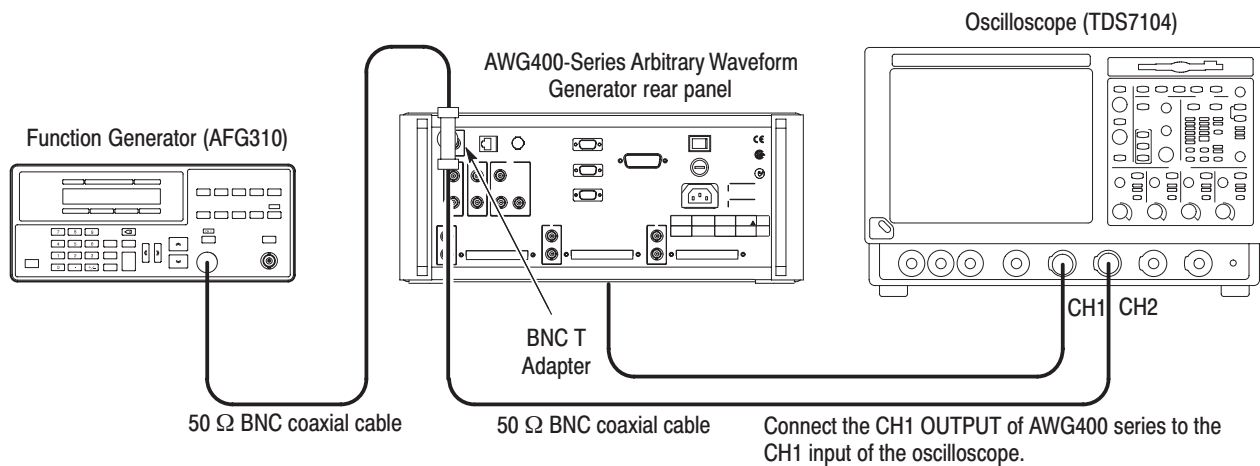

Figure 4–10: Triggered mode initial test hookup (Instrument with option 05)
- a. Use a 50 Ω BNC coaxial cable to connect the AWG400-Series CH1 output connector to the oscilloscope CH1 input connector. Next, connect a BNC-T adapter to TRIG IN connector of AWG400-Series, and connect a 50 Ω BNC coaxial cable from BNC-T adapter to oscilloscope CH2 input connector. (Refer to Figure 4–10.)
- b. Connect the third 50 Ω BNC coaxial cable to the BNC-T adapter. Connect the opposite end of the coaxial cable to the function generator output. (Refer to Figure 4–10.)